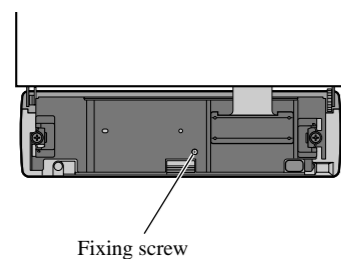

Fig. 13
**About the fixing screws for the front panel (Fig. 13)**